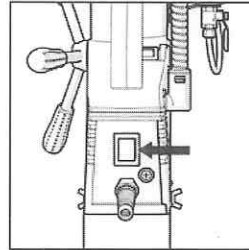

Fig. 4
- Operate the red switch (**Fig. 4**) situated at the rear of the machine to energise the magnet.